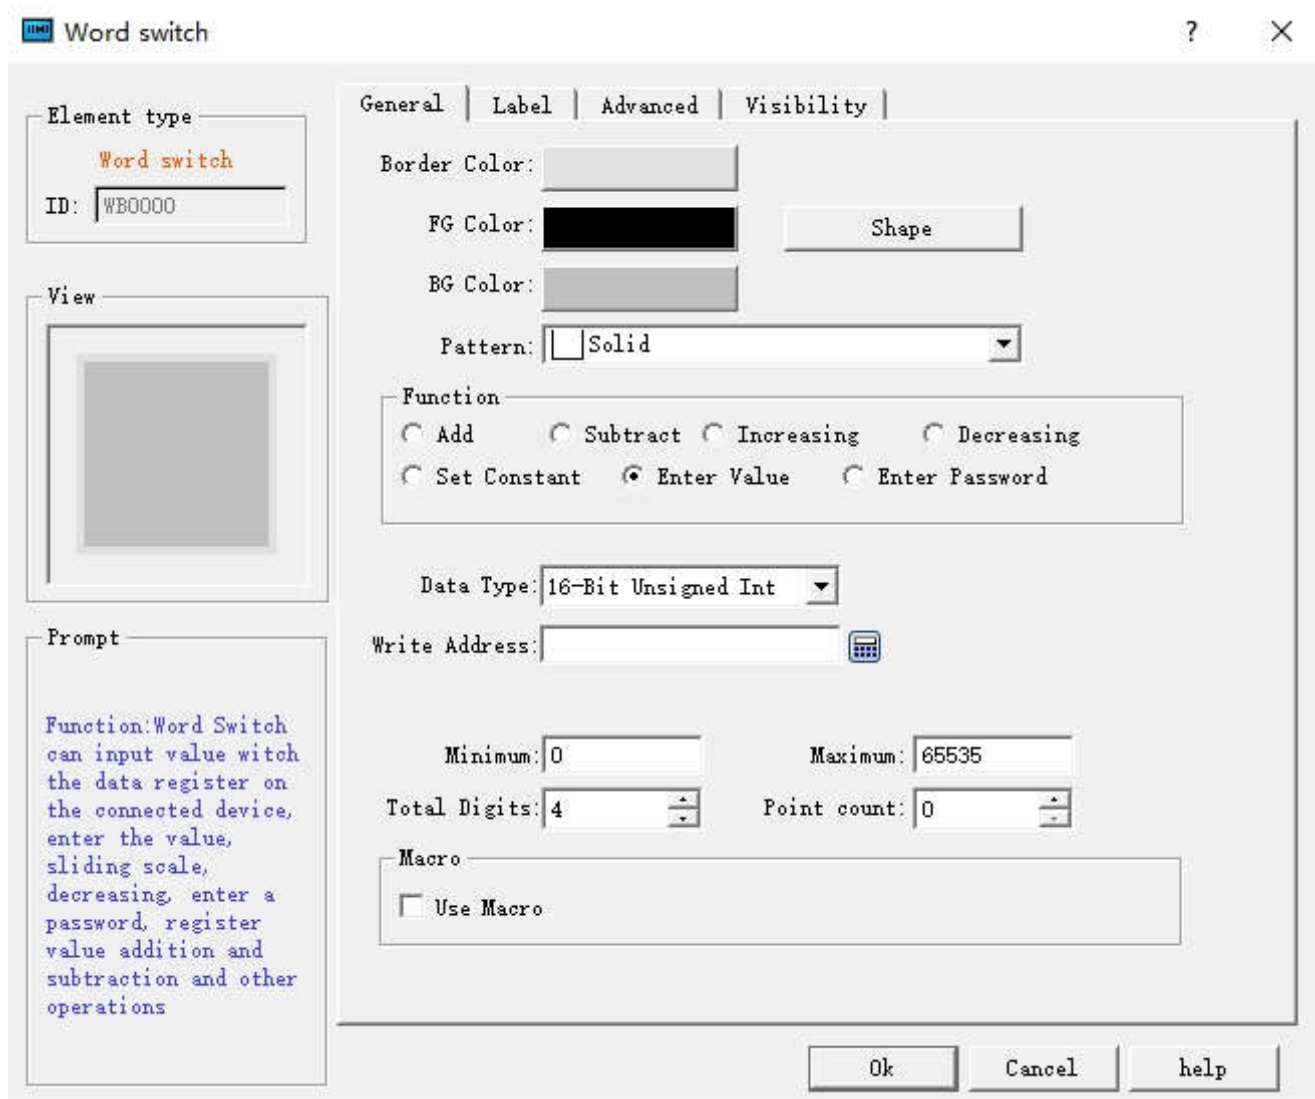

Figure 4-72 Word Button dialog box
- Select the Word Button icon  on the toolbar, then the following dialog box is displayed, as shown in Figure 4-72: